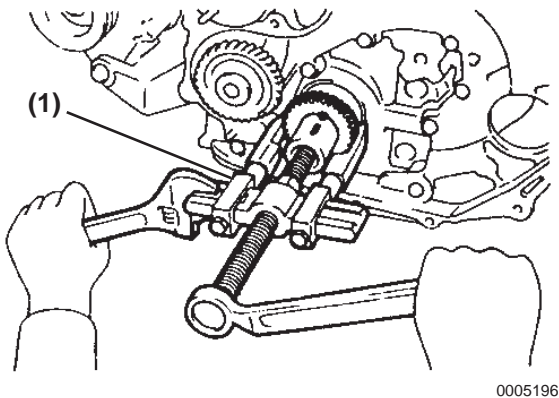

Figure 5-196
20. Remove the crankshaft timing gear using the special tool gear puller P/N 119770-01080 (**Figure 5-196, (1)**).